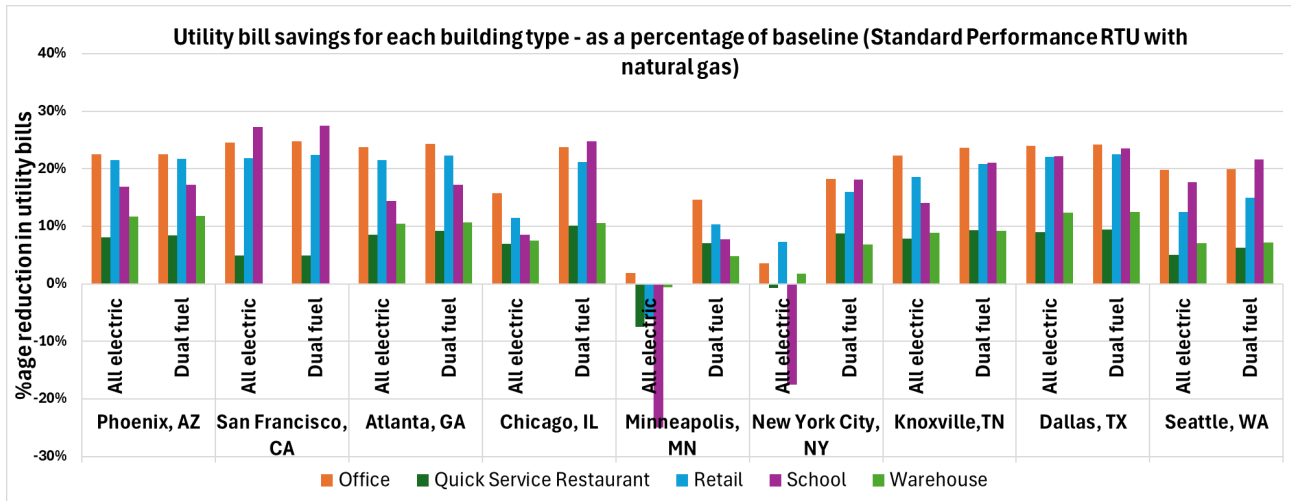
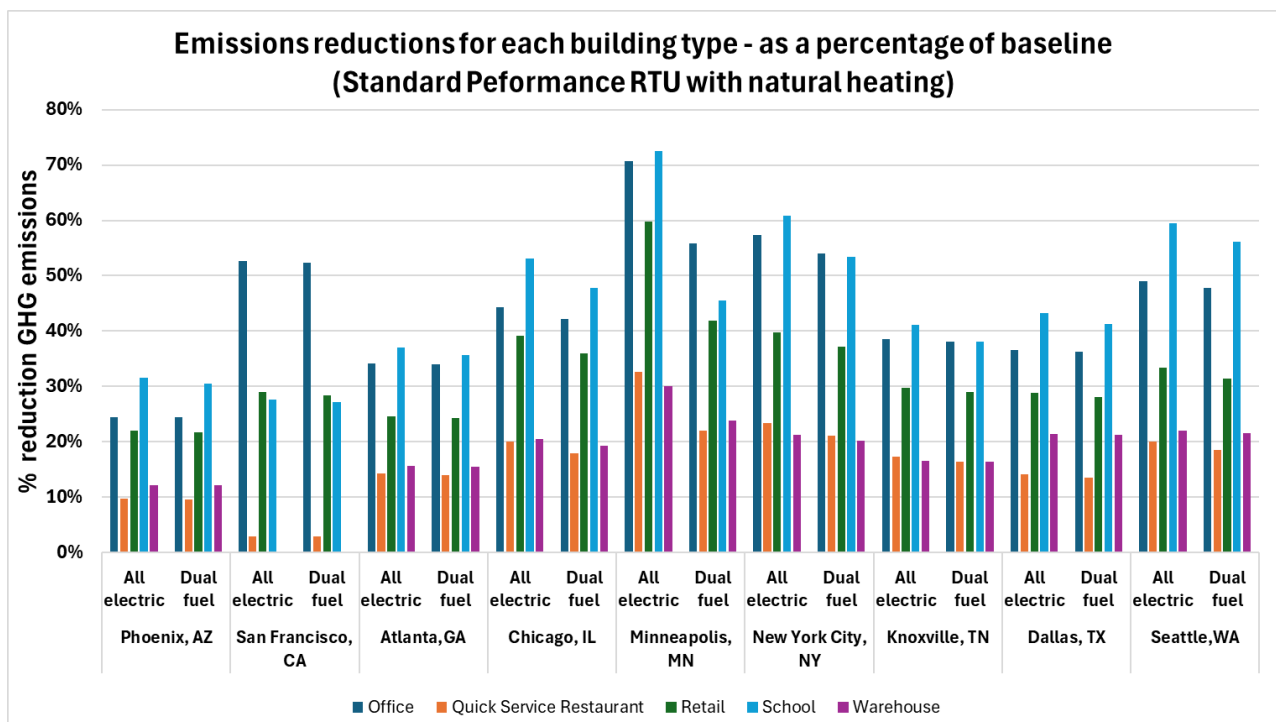

Figure 3. Utility bill savings of HP RTU upgrades in comparison to baseline space cooling and heating system.
Figure 4. GHG emissions reductions of HP RTU upgrades in comparison to baseline space cooling and heating system
Figure 3 shows a plot of the modeled operating costs for a variety of commercial buildings, simulated as part of the National Renewable Energy Laboratory's (NREL) commercial building sector stock model ComStock5, across nine key locations across the U.S. for two scenarios, namely, (1) all-electric variable speed HP RTU with electric resistance backup, and (2) dual fuel variable speed HP RTU with natural gas backup, in comparison to the baseline, which is a standard AC RTU with natural gas heating. The variety of commercial buildings and locations allowed for capturing variations in climate, grid emission factors, and utility rates. As an example, it can be seen that the utility bill savings may be as high as 27% for schools in San Francisco for all-electric HP RTUs, but the same unit would result in negative savings of 25% in Minnesota, due to a difference in their building heating loads, how “clean” the current electrical grid is, and the cost of electricity.
Figure 4 shows a plot of the modeled reductions in GHG emissions for the same building types, locations, and scenarios shown in Figure 3, using NREL’s ComStock tool. It can be seen that emissions savings are highly correlated with the type of commercial building, followed by its location.